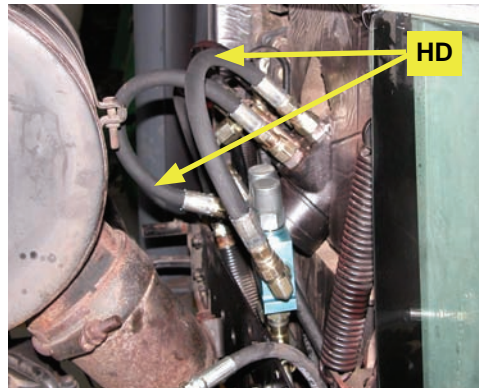

Figure 4a: CBV hoses installed between CBV and steering orbital
- a. Connect the counterbalance valve hoses **HD** between the **V1** and **V2** ports of the counterbalance valve and the left and right steering ports of the tractor steering orbital (Figures 4a and 4b).